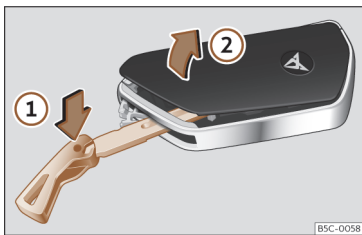

Fig. 74 Vehicle key: open the battery compartment cover.
- Insert the key blade into the slot >>> **Fig. 74**, press it in the direction of the arrow ① and detach the cover by levering it ②.